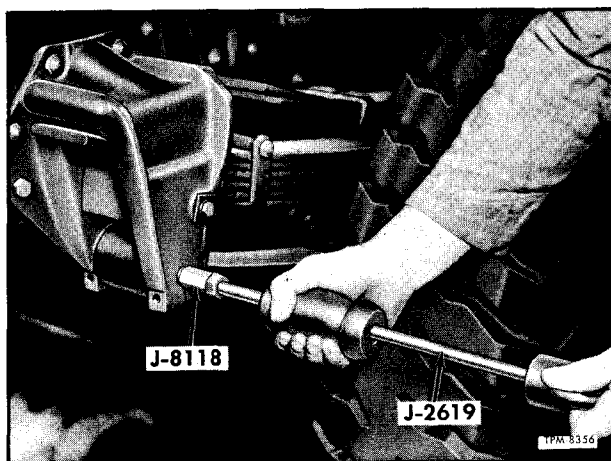

Figure 4—Removing Radius Leaf Pin with Slide Hammer and Adapter
adapter (J-8118) and withdraw spring eye pin from bracket (fig. 4). On conventional cab models, remove bolt attaching radius leaf to rear mounting bracket.
4. Install adapter (J-8118) into lubrication fitting hole in end of radius leaf pin and use slide hammer to withdraw radius leaf pin (fig. 4).